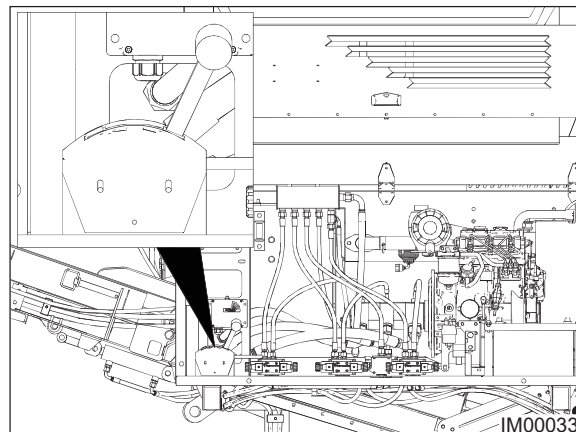

Fig: 8.10 - Throttle Lever
5. Using the Manual Throttle Lever (Fig: 8.10), increase the engine speed to maximum (2800 RPM).